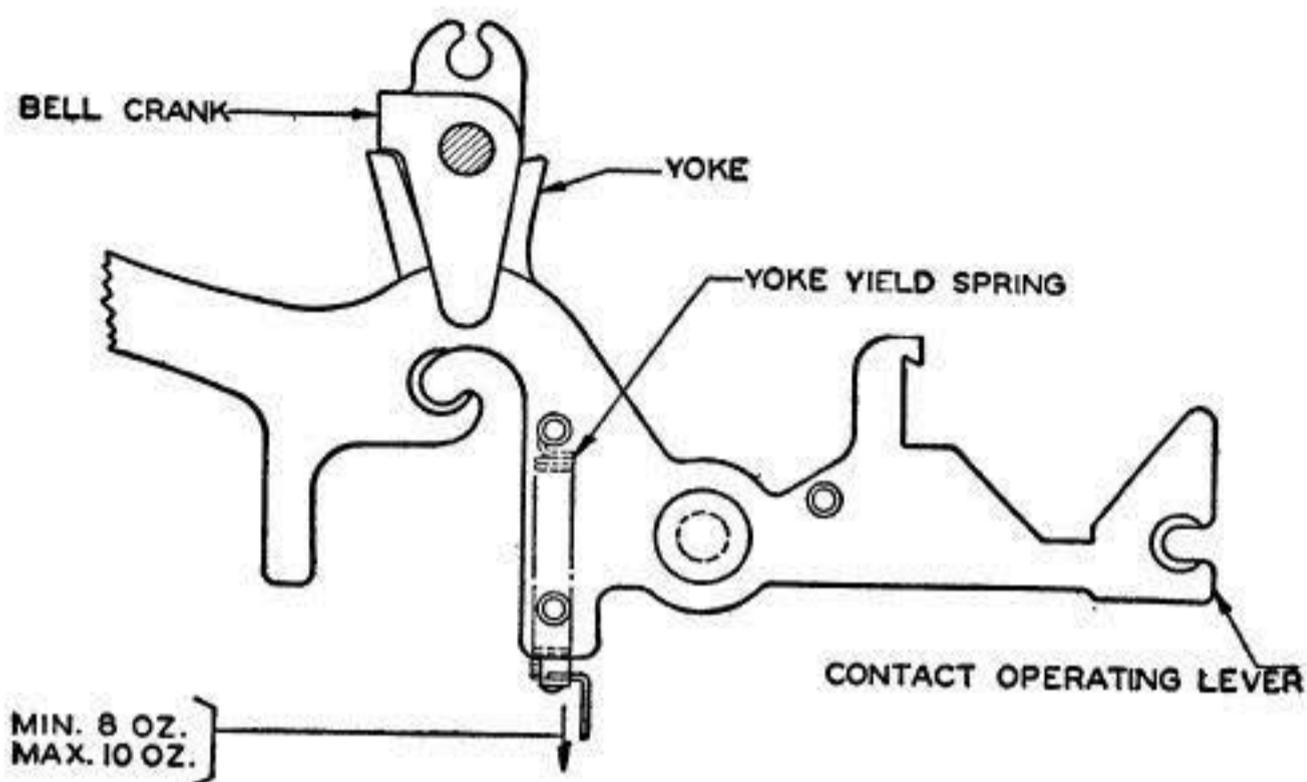

Fig 23
- (1) With the unit in its upright position, rotate the main shaft until the function levers are in their uppermost position.
- (2) Hook the pull-end of the scale to each locklever just to the rear of its vertical portion and pull vertically upward.
3.40 Contact-Operating-Lever Yoke Yield-Spring: It should require Min 8 oz, Max 10 oz, to start the yoke moving. **Fig 23**